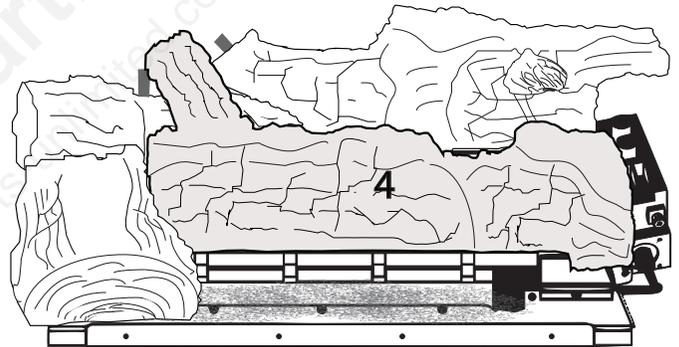

Figure 5.23 - Log #4 Placement
5. Place Log #4 in the center of the burner with the two pin locator holes lining up with the two log pins on the burner assembly. Make sure Log #4 is sitting all the way down on the burner. See Figure 5.23.